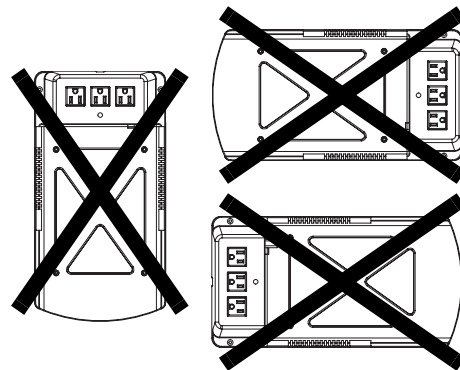

Figure 4 Installation Orientation
2. Hold the Docking Station template against the wall (see Figure 4) and mark the six mounting holes for the unit.